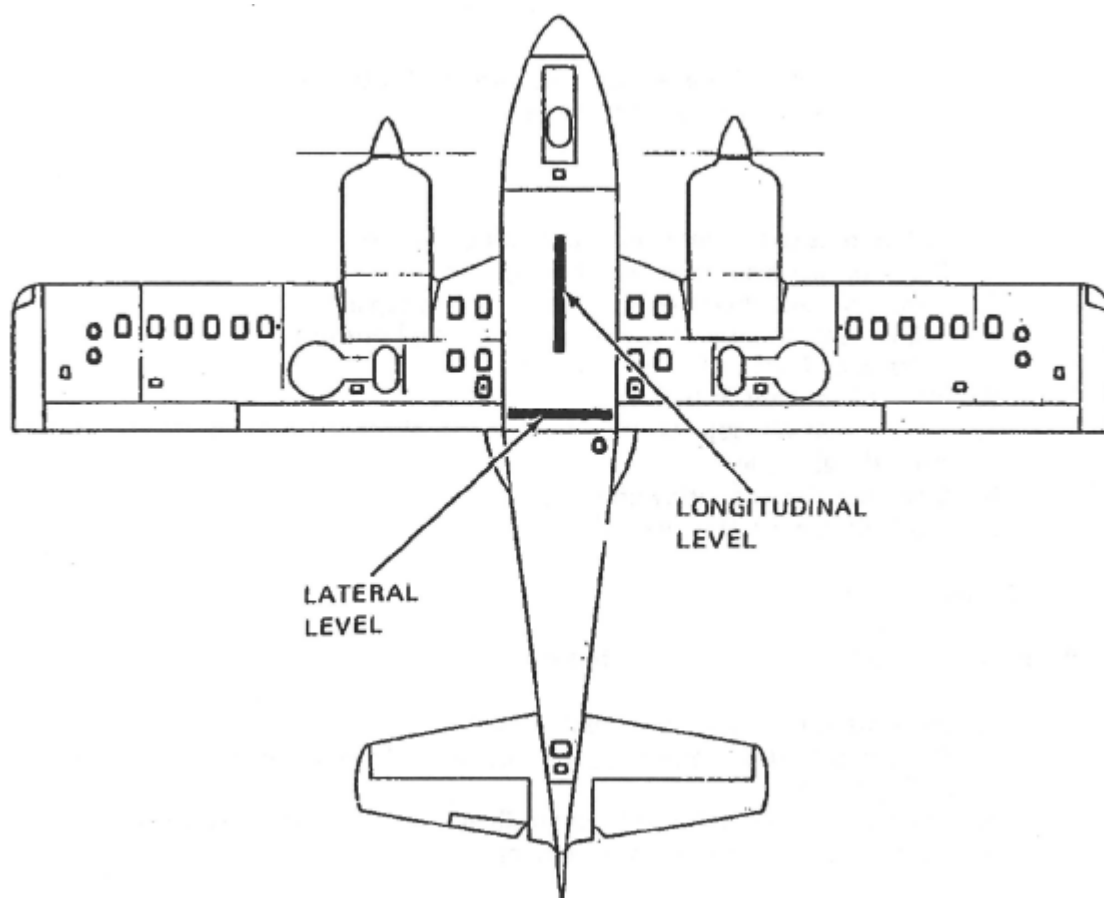

Figure 6-1. Leveling Airplane (Bottom of Fuselage)
2. Place two foot carpenter levels or equivalent against bottom of fuselage as shown in Figure 6-1.
3. Place two carpenter levels or equivalent against bottom of fuselage as shown in Figure 6-1.